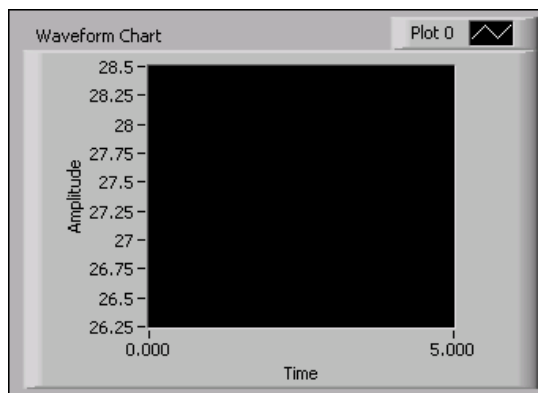

Figure 10.12
1. Open a blank VI and build the front panel shown in Figure 10.12 by placing a waveform chart, located on the **Controls**»**Graph Indicators** palette, on the front panel.